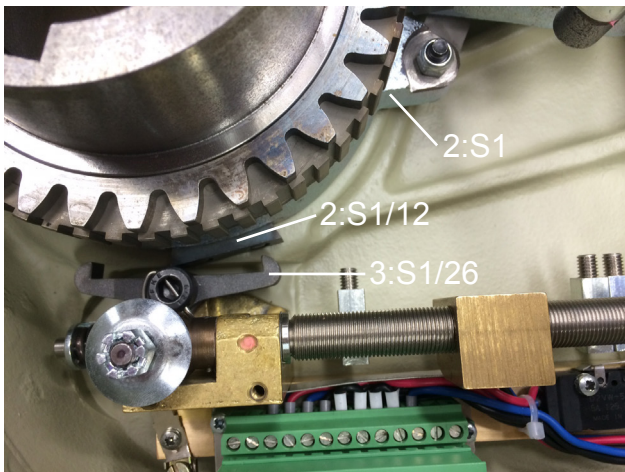

Figure 2
The increased starting torque is obtained by a restriction of the console movement (2:S1) when changing the rotary direction, figure 2. By support of the catch (2:S1/12) in the console this is kept in such a position of the latch (3:S1/26) on the indicator bridge, that the effect will be the increased starting torque in relation to the normal torque.
5. Bring over the shaft (3:S1/41) about 3 mm against bracket (3:S1/14), so that the latch (3:S1/26) figure 2, is turned in a suitable position to grasp the catch (2:S1/12). Suitable tool: Seeger circlip pliers.